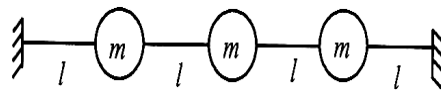

Fig. Q8(c)
- c. Three equal masses are attached to the string as shown in Fig.Q8(c), obtain the influence coefficients of the system. 10